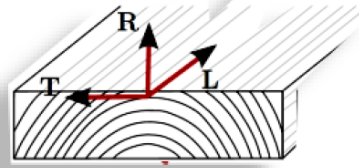

Figure 2. Reciprocal relations.
3. Derive the reciprocal relations between Poisson's coefficients  $\nu_{ij}$  and elastic moduli  $E_i$  (see Figure 2).